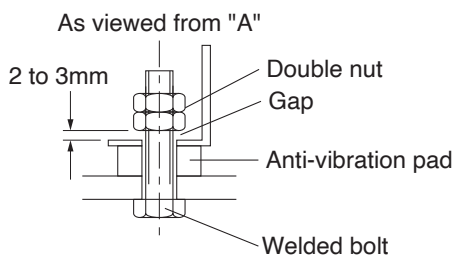

Fig.1
① CRM Series, CRMH Series, CRH Series
- c Leave a gap at the securing bolts to allow the anti- vibration pads to function properly (See Fig.1).
- d For drain piping details, see page 14, item (3) "Drain tube piping".